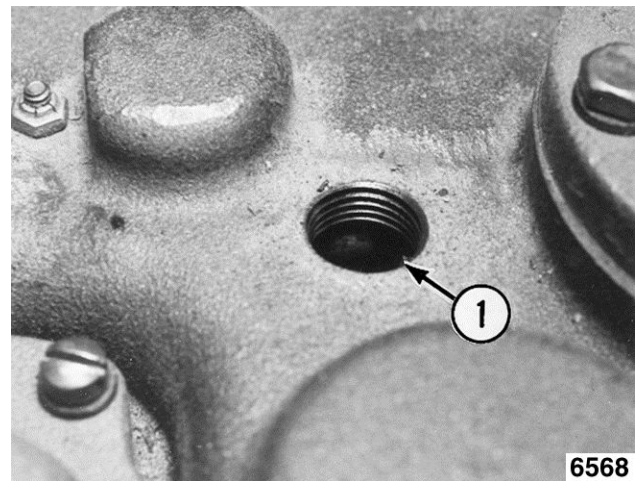

Fig. 4
- B. Apply power and turn mixer ON. Look inside oil fill hole [1] Fig. 4.